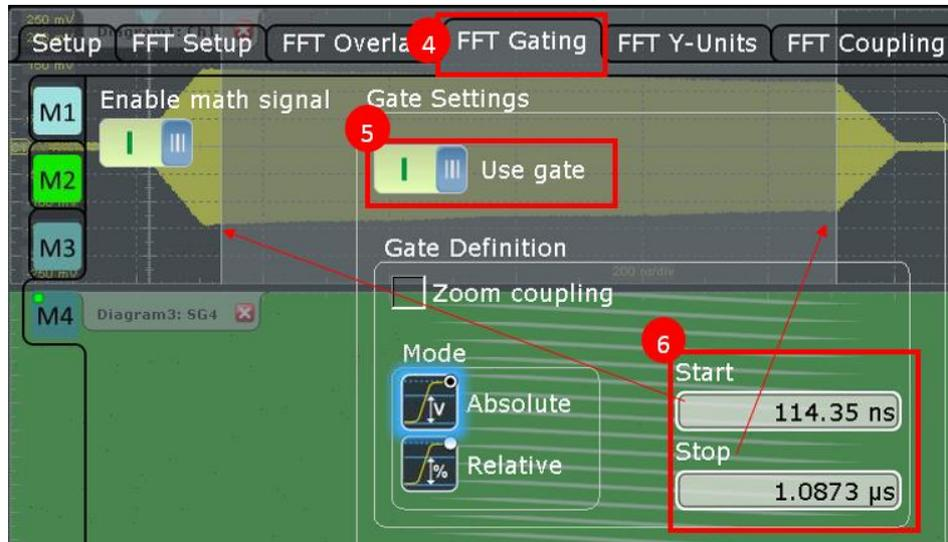

Figure 21: Math/FFT Gating
**[Diagram 1:Ch1]:** One pulse captured with a FFT gate. The FFT gate is the time window from which the FFT is calculated. See detailed view Figure 21